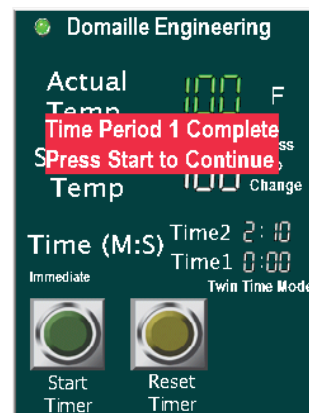

FIG 19. "Time 1" done indicator
"Twin Time" mode allows the user to select a temperature set point and two (2) times for the oven cure cycle. "Twin Time" is similar to "Timed" mode except the oven will execute "Time 1" first and then a text box pops up, alerting the user "Time Period 1 Complete. Press Start to Continue" [Fig. 19]. Once the user presses the "Start Timer" button "Time 2" will begin.